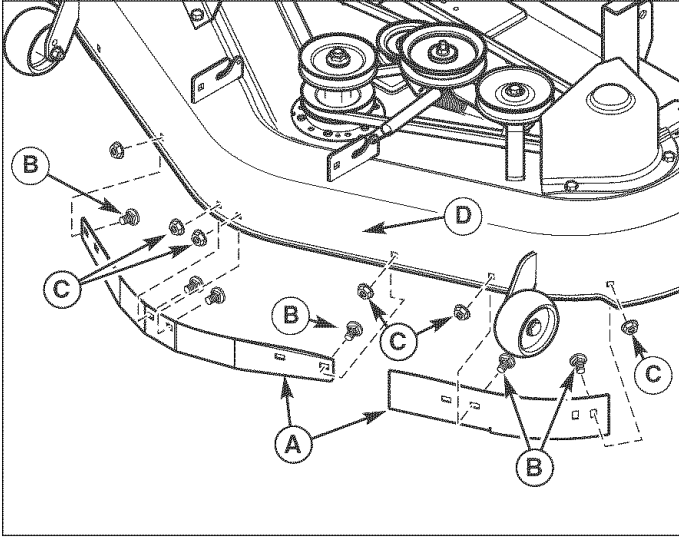

Figure 7. Remove Baffle and Hardware
1. Remove and discard existing baffles (A, Figure 7) carriage bolts (B) and nuts (C) from mower deck housing (D).
2. Insert mount pin (D) through the support mount (X) and upright support (A) as shown.
3. Secure mount pin (D) with retainer spring (E).
4. Attach cover assembly (I) to bag support bracket (B) using cover hinge pivots (H). Secure cover assembly to bag support bracket using hinge pins (F) and retainer springs (E).
5. Raise the cover (I), attach collector bags (J) using grass bag hanger (K) to bag hanger post (D, Figure 7).
6. Lift discharge deflector (V) up and insert lower chute rod (S) into mounting plate (T).
7. Pull rubber strap (U) below discharge deflector (U) and secure lower chute (R) to mower deck by placing hole in rubber strap (U) (hole closest to lower chute) over locknut mount (W).
8. Slide upper tube (M) into cover (I) aligning ridge (N) with ridge cutout (L).
9. Slide tube assembly (O) over lower chute (R) securing tube assembly (O) to lower chute (R) using rubber strap (P) on tube assembly (O) to pin (Q) on lower chute (R).